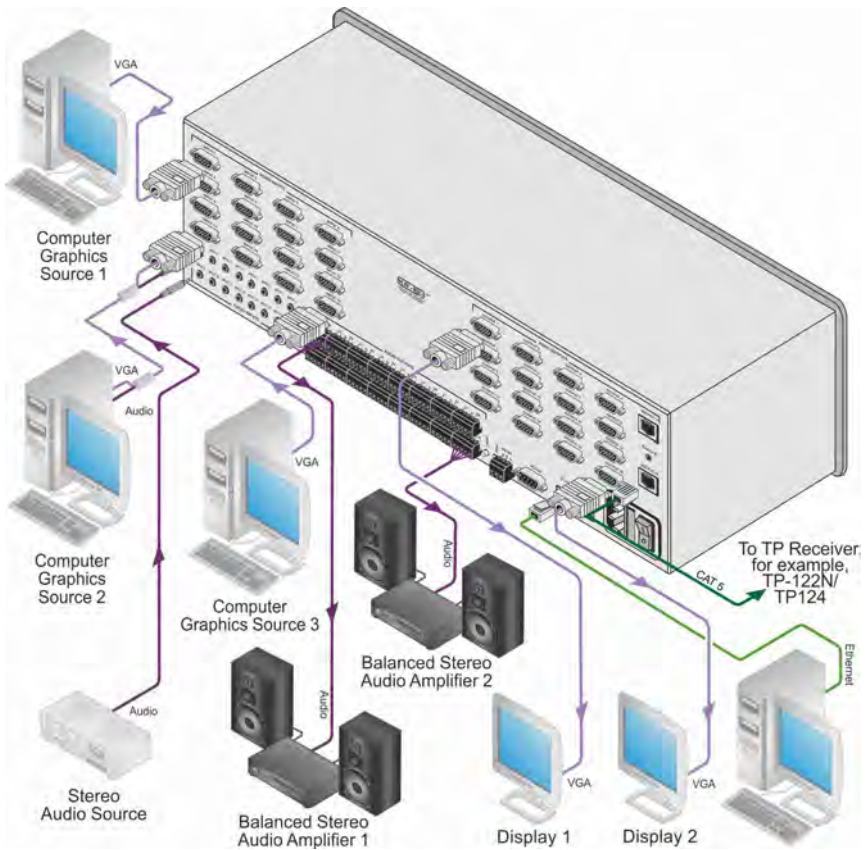

Figure 3: Connecting the VP-16x18AK 16 x 18 PC UXGA/Audio Router
**To connect1 the VP-16x18AK, as illustrated in the example2 in Figure 3:**
6. Connect the power cord3 (not shown in Figure 3).